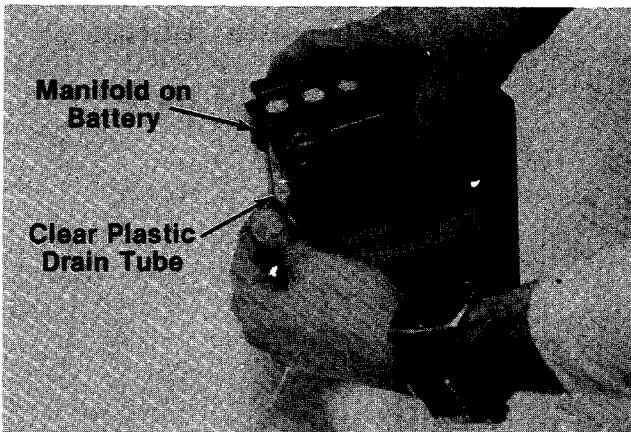

FIGURE 3.
- ← 3. Place one end of clear plastic drain tube on manifold of battery. See figure 3.